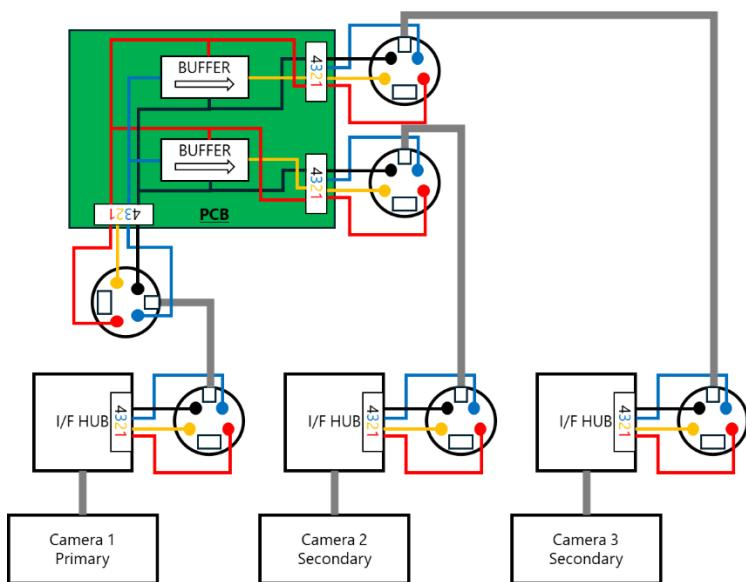

Figure 39. Example of a conversion board (PCB) for parallel camera connection
1. When connecting cameras together, pin 2 must be connected as input and pin 3 as output. For this reason, straight MINI-DIN 4P cables cannot be used. Therefore, prepare the converter board shown in **Figure 39. Example of a conversion board (PCB) for parallel** camera connection.